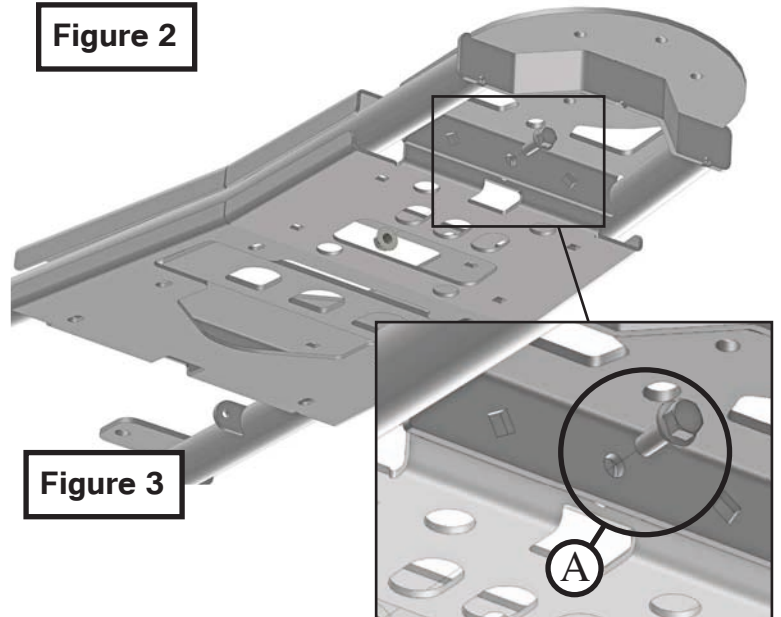

Figure 3
3. Set the upper stiffener on top of the tube lining the upper stiffeners bend over top of the lower stiffener in the front of the tube. Make sure that in the rear of the tube, the lower stiffener's bend is laying overtop the upper stiffener. Shown in Figures 3 & 4.
4. Loosely attach the upper and lower stiffeners using the 3/8 nuts and bolts in locations {A & B}. Shown in Figures 3 & 4.